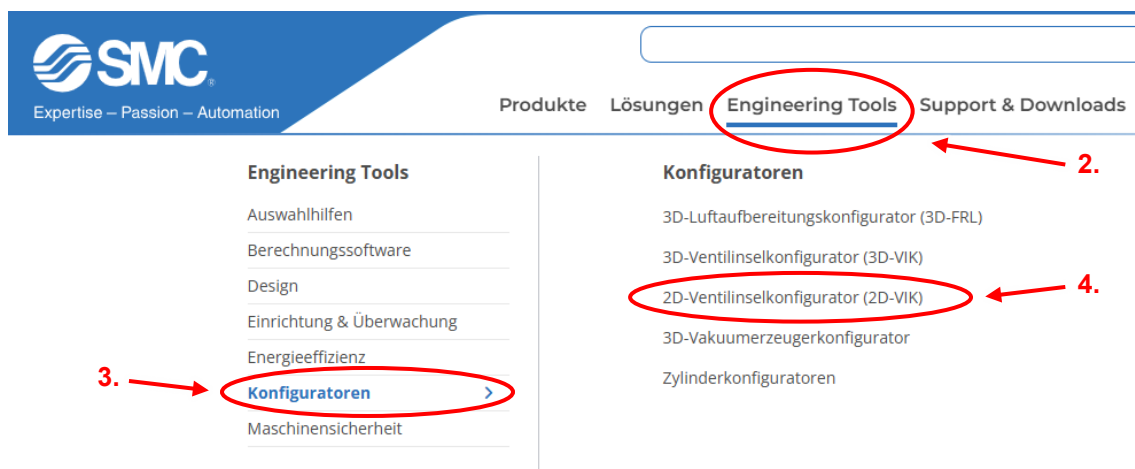

Figure 2
2. Navigate to the “Engineering Tools” menu item (Figure 2).
3. Navigate to the “Configurators” menu item in the drop-down menu (Figure 2).
4. Click on the submenu item “2D Valve manifold configurator (2D-VIK)” (Figure 2).